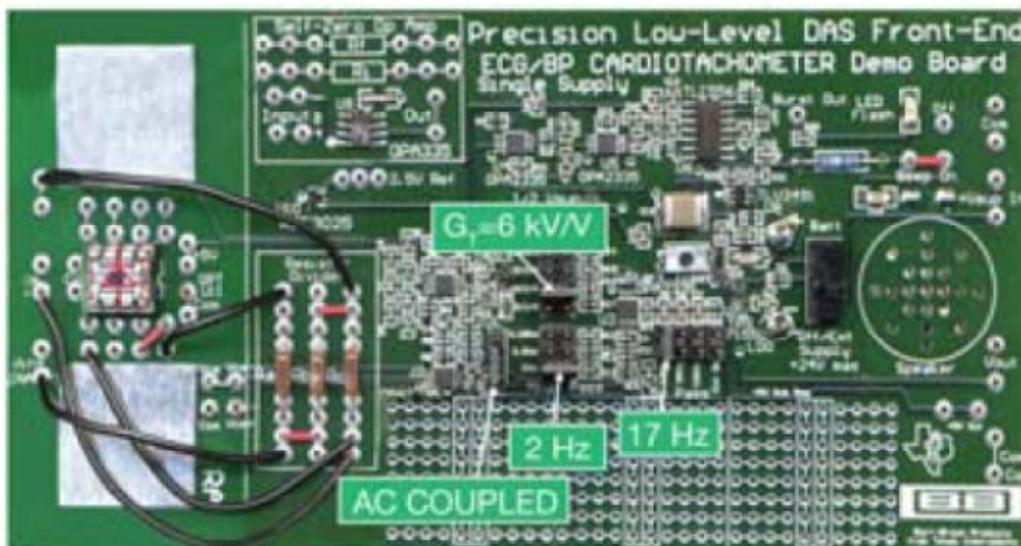

Figure 2 An engineer's precision, low-level ECG cardiometer board took the measurements for Figure 1.
- In a 2000 ft² photolithography area, four steppers were experiencing unexplained lockups, one a number of times each day, the others randomly. Measurements with an EMI locator indicated signals throughout the room, particularly near the ceiling channels. Not surprisingly, the highest-level signals were found in the vicinity of the stepper experiencing the most frequent lockups. Checking the equipment grounding revealed a top cover panel that was not attached, but rather rested on the top of the equipment, and was very close to one of the ceiling-mounted air ionizers. When this panel was removed, all the EMI signals in the room disappeared and there were no further lockups in any of the steppers. It was apparent that the ungrounded panel was being charged by the nearby ionizer, and was then discharging to the grounded frame of the stepper near the ceiling. This ESD event signal was picked up and conducted around the room by the ceiling channel (Fig. 2).
The heart's input signal to the system is approximately 0.25 mV p-p. This small signal requires an instrumentation amplifier's gain of approximately 6000V/V. The good news is that the results in Figure 1 do not represent the performance of a doctor's office ECG-measurement tool. This measurement was actually taken in an engineer's lab from the board in Figure 2.